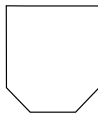

Figure 43: Metallic Test Tank
- Prepare a Metallic Test Tank as shown in the following Figure 43. The distance from test tank side walls should be of the same order as with distance with the actual tank.
- Prepare a Metallic Test Tank as shown in the following Figure 43.